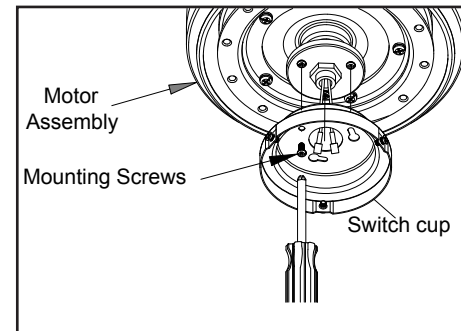

Figure 14
1. Remove one screw and loosen but do not remove two screws from keyhole slots on the motor assembly. (Figure 14)